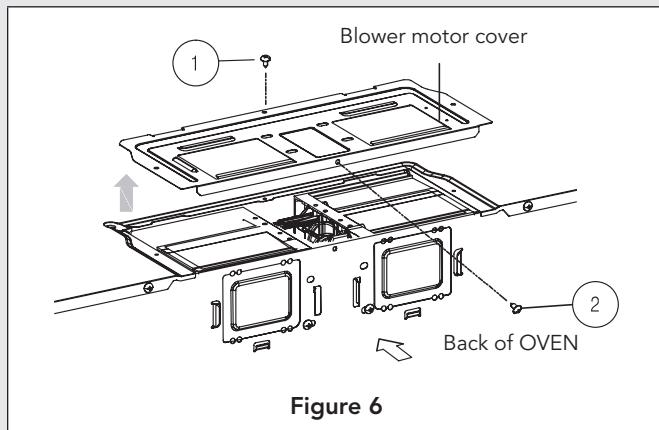

Figure 6
- Remove the screws (1) and (2) for opening the blower motor cover and save screws. Remove cover. See Figure 6.